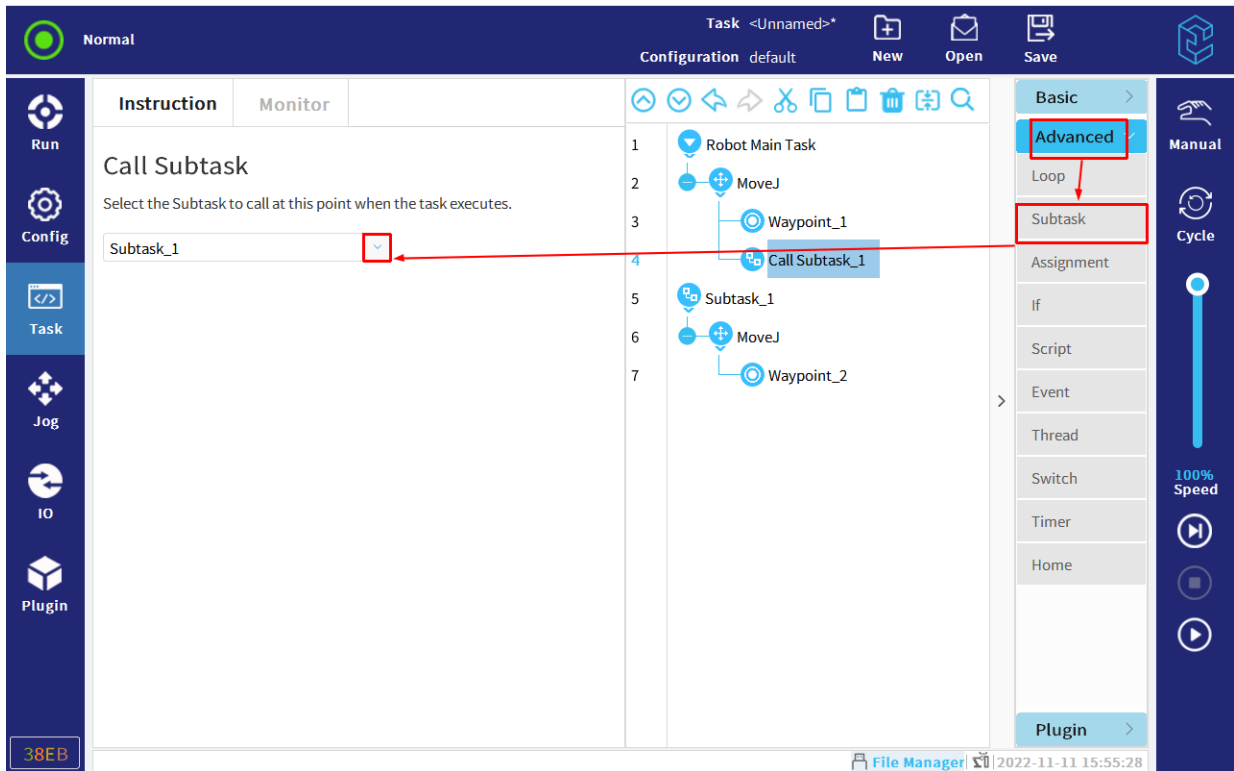

Figure 12-21 Call subtask
2. Click "Call" in the task tree, click "New" or select an existing subtask file, as shown in Figure 12-21.